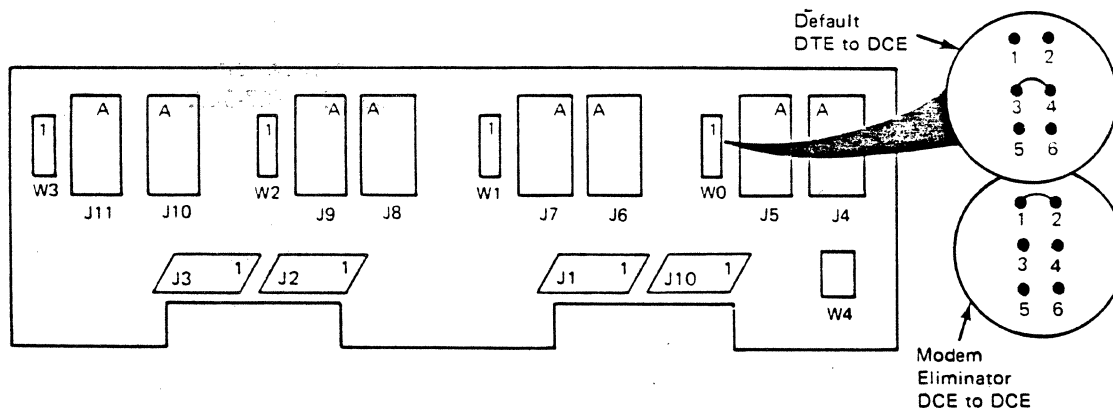

Figure 9-14. V.35 DCE I/O Panel, Pin Side
The DCE V.35 I/O panel features a jumper array for each port which allows the user to select signal crossovers. The jumper array is located on the inside of the I/O panel, adjacent to each I/O port (Figure 9-14). To jumper a V.35 DCE I/O panel, perform the following procedure.
1. If you are connecting a DTE device to a DCE device, connect pins 3 and 4, default (Figure 9-14).